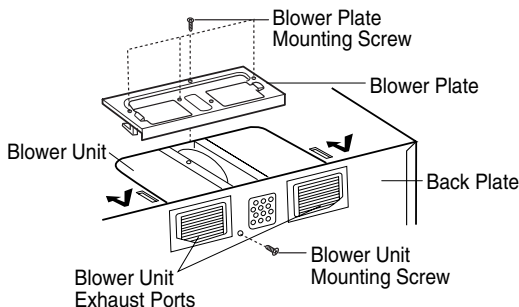

Figure 17
7. Reattach the blower plate to cabinet so the exhaust ports and blower plate opening are aligned. Attach with one blower unit mounting screw and then one or several blower plate mounting screw(s). See Figure 17.